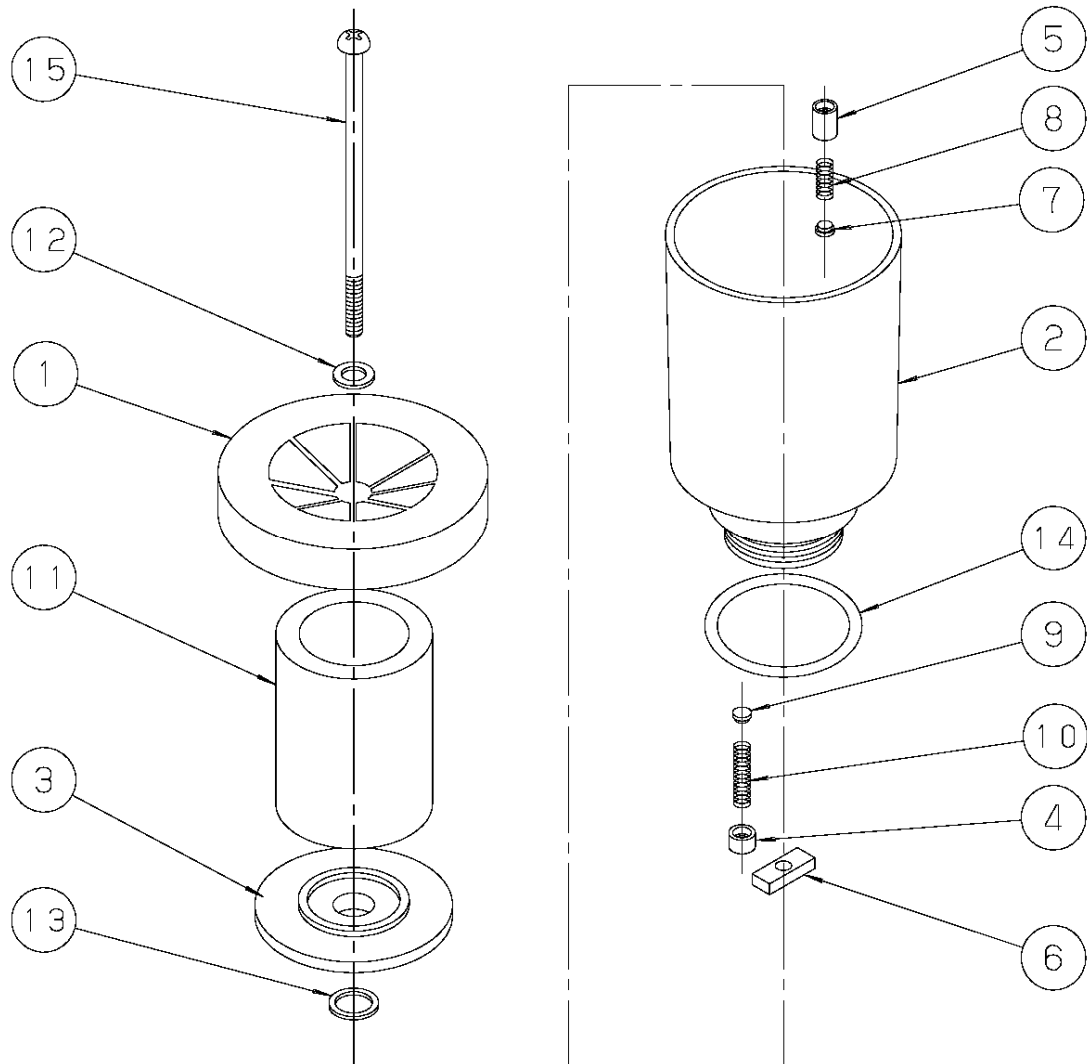

Fig. 2 Disassembly Drawing of OMT-050A
The number in a circle indicates parts of DISASSEMBLY DRAWING (Fig. 2).
- 2) See Fig. 2 and table. 3.
- 3) Turn Screw ⑮ counter clockwise with a driver.
- 4) Remove Screw and then remove Seal washer ⑫.
- 5) Remove Top cover ①.
- 6) Remove Element ⑪ and then remove Element stopper ③, Gasket ⑬ from Case ②.